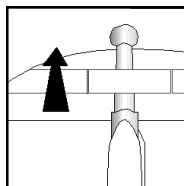

Figure 24
1. Insert one of the four clear plastic toggles on the pocket, ball-end first, upward through one of the white webbing slots on the packbag. **Refer to Figure 24.**